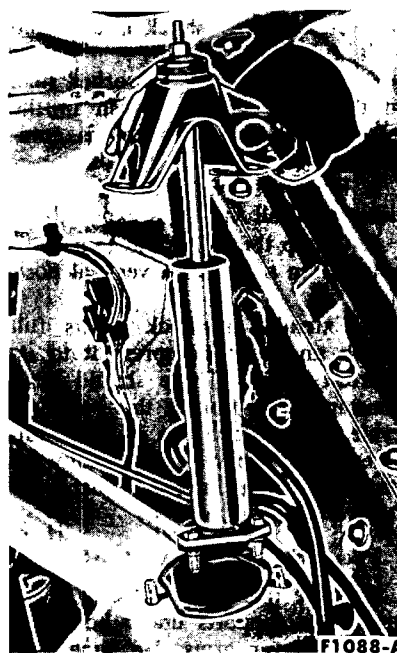

FIG. 7—Removing Front Shock Absorbers
3. Remove the shock absorber upper mounting bracket retaining nuts. Lift the bracket and shock absorber from the car (Fig. 7).